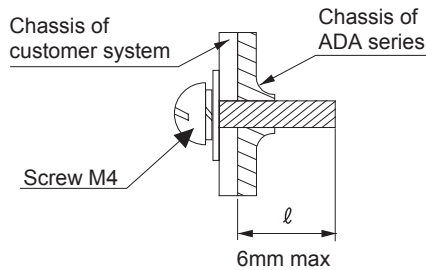

Fig.2.1 Mounting screw
- The screw should be inserted up to 6mm max from outside of the power supply to keep a distance between inside parts and an isolation (Fig.2.1).